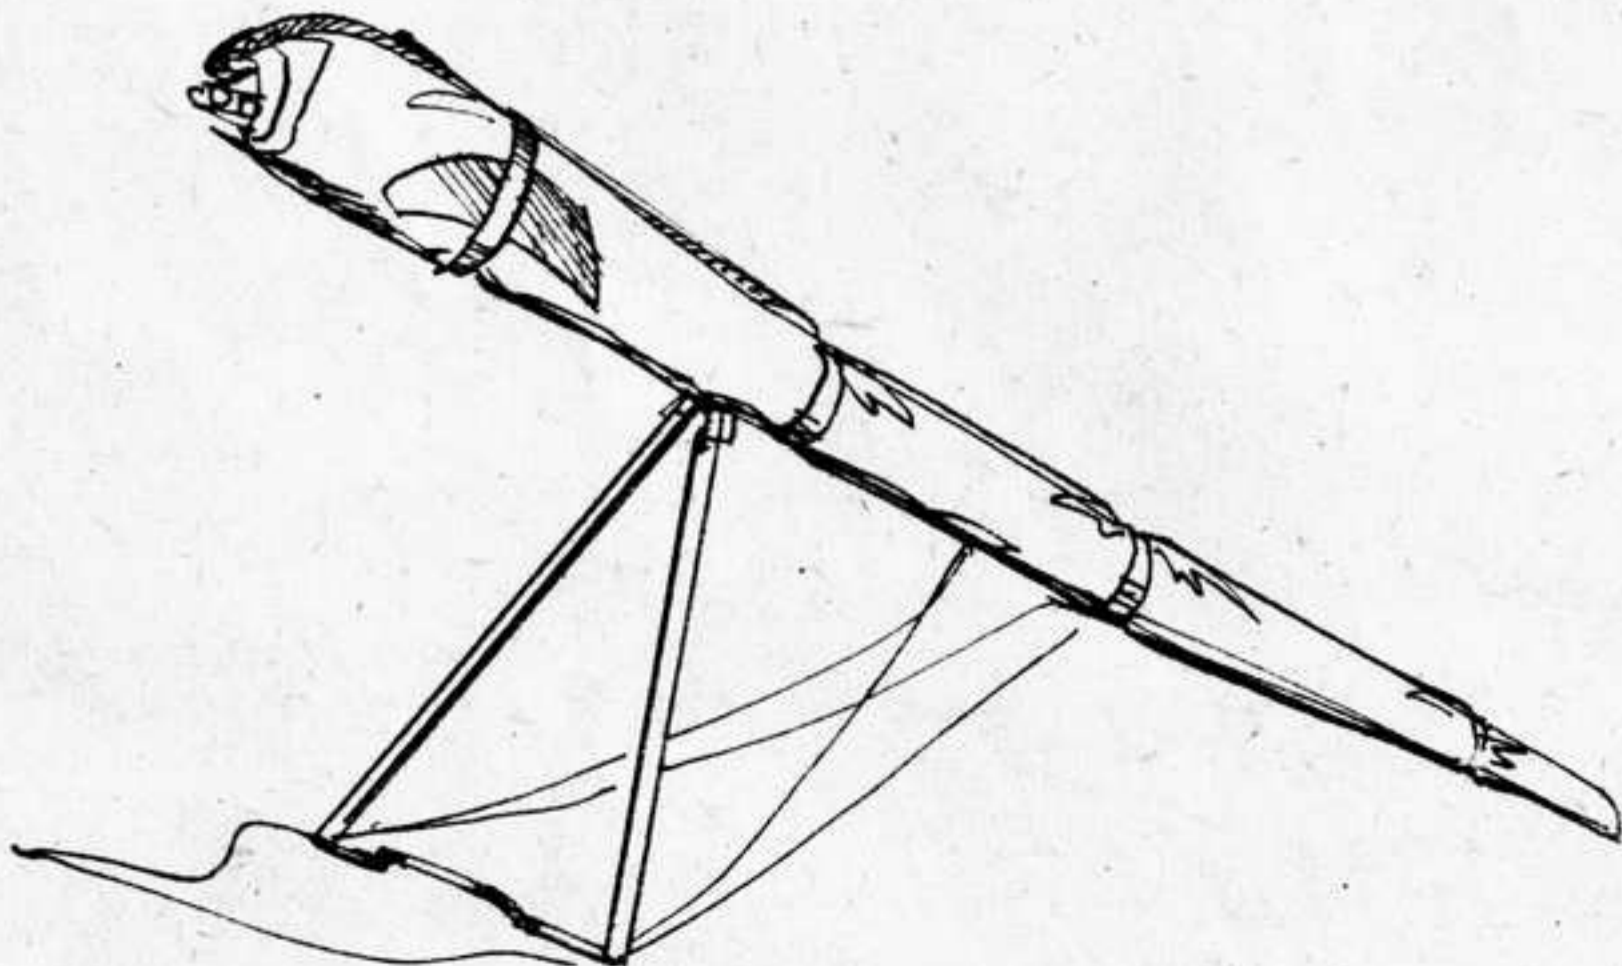

Fig.12
4.1.8. Cover the rear keel tube/wires junction by a cone. Place the bags with battens in the nose section along the kingpost, put the nose cone under the nearest to the nose tighten tape (fig.12). Fit the bag over the glider (from the upper side).